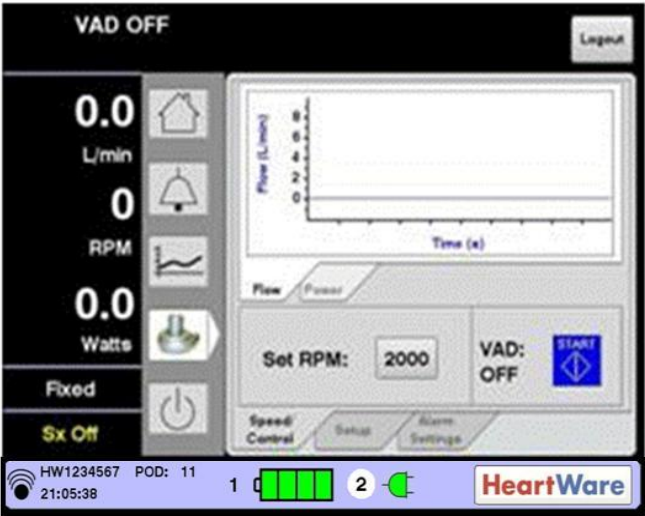

Figure 26: System Screen – VAD start
- VAD: OFF means the HVAD® Pump is NOT pumping; the button is BLUE and labeled START. To start VAD, press START (Figure 26).